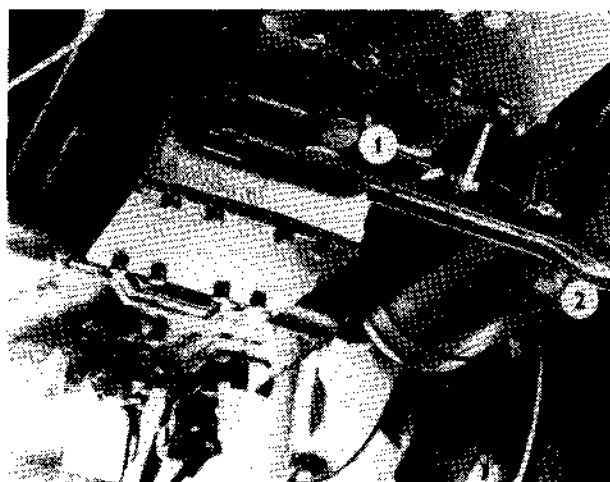

Fig. 11
14. Gearbox and main transmission housing oil drain plug (Fig. 11/1).
23. Air receiver condensate drain plug (Fig. 11/2).